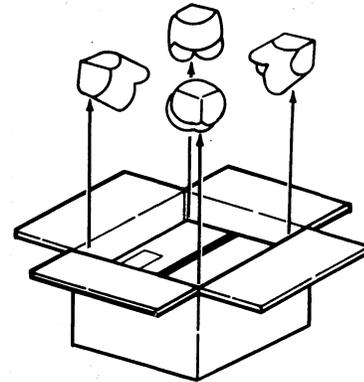

Fig. 11—Printer Carton and Packing Details
3.13 Remove packing details and inner carton (Fig. 11).